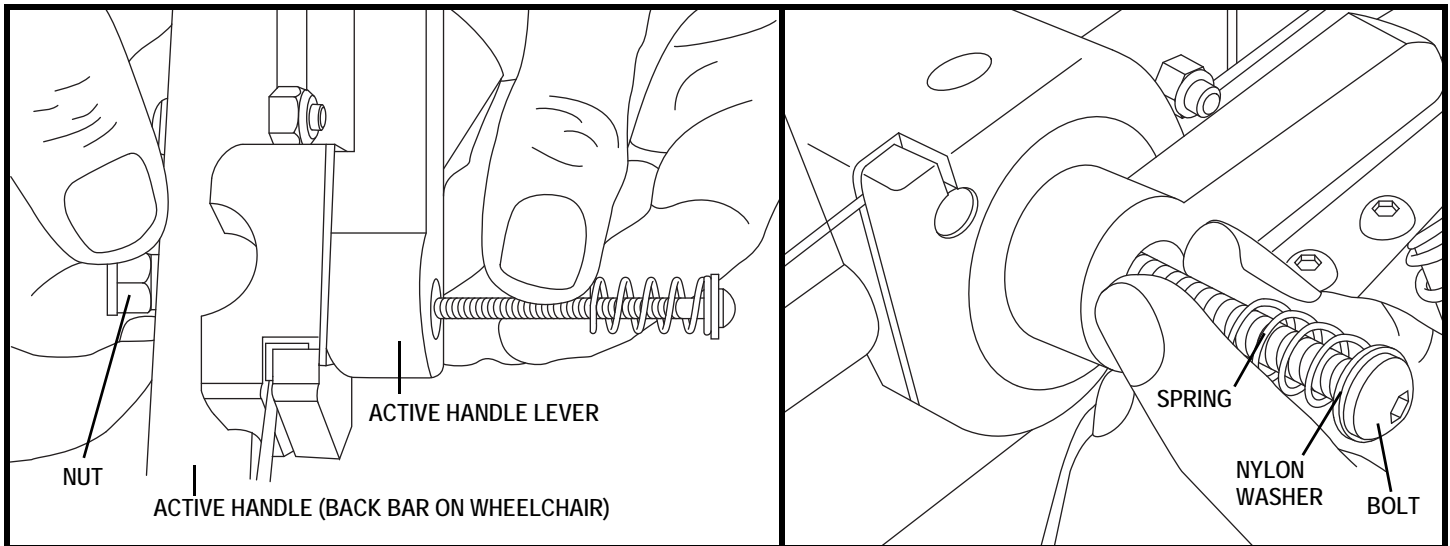

Figure 25. ACTIVE Handle Lever Hardware
11. Install the ACTIVE handle then verify the functionality of the ACTIVE mechanism. **See figures 25 and 26.**
The ACTIVE handle lever may be removed for shipping to prevent damage to the wheelchair. It must be installed to enable full functionality of the wheelchair. See figures 25 and 26.